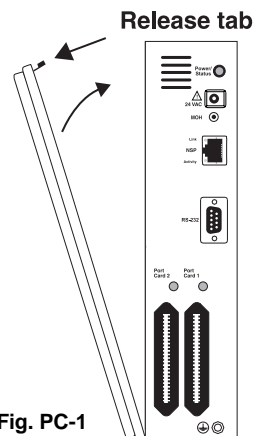

Fig. PC-1
2. Remove the locking screw (at the top of the cabinet, securing the cover), and then remove the top cover by pressing down the locking tab and pulling the top cover forward (**Fig. PC-1**).